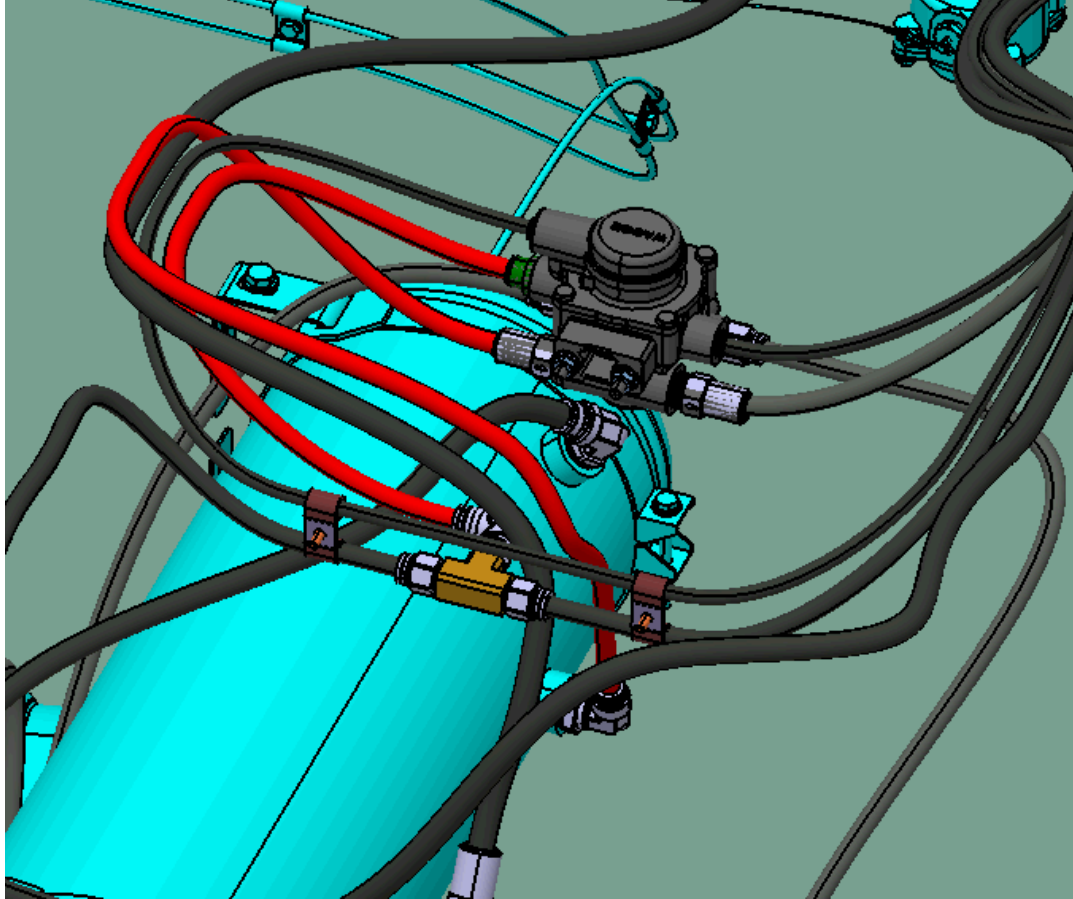

Figure-2
*Remove the hose between IR valve and Tee fitting shown in Figure-2. (Marked with red)
*Remove tge hose between IR valve and air reservoir shown in Figure-2. (Marked with red)
*Connection port is the same one that shown in Figure-2 (Red circle)